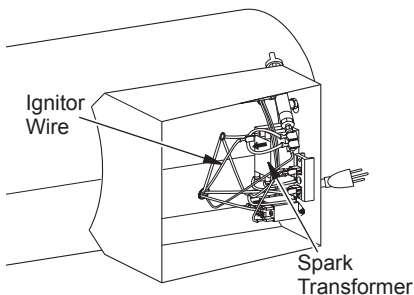

Figure 10 - Removing Ignitor Wire from Spark Transformer
2. No spark at ignitor. To test for spark, follow step 8 under Ignitor , page 8. If you see spark at ignitor, have heater serviced by qualified service person. If no spark seen: A) Loose or disconnected ignitor wire B) Wrong spark gap C) Bad ignitor electrode D) Bad spark transformer	2. A) Check ignitor wire. Tighten or reattach loose ignitor wire. See Figure 10, page 8 for ignitor wire location B) Assure gap between ignitor electrode and target plate is 0.13"/0.15" (3.3/3.8 mm). Do not bend electrode. Doing so may cause it to break C) Replace ignitor electrode. See Ignitor , page 8 D) Replace spark transformer. See Spark Transformer , page 8